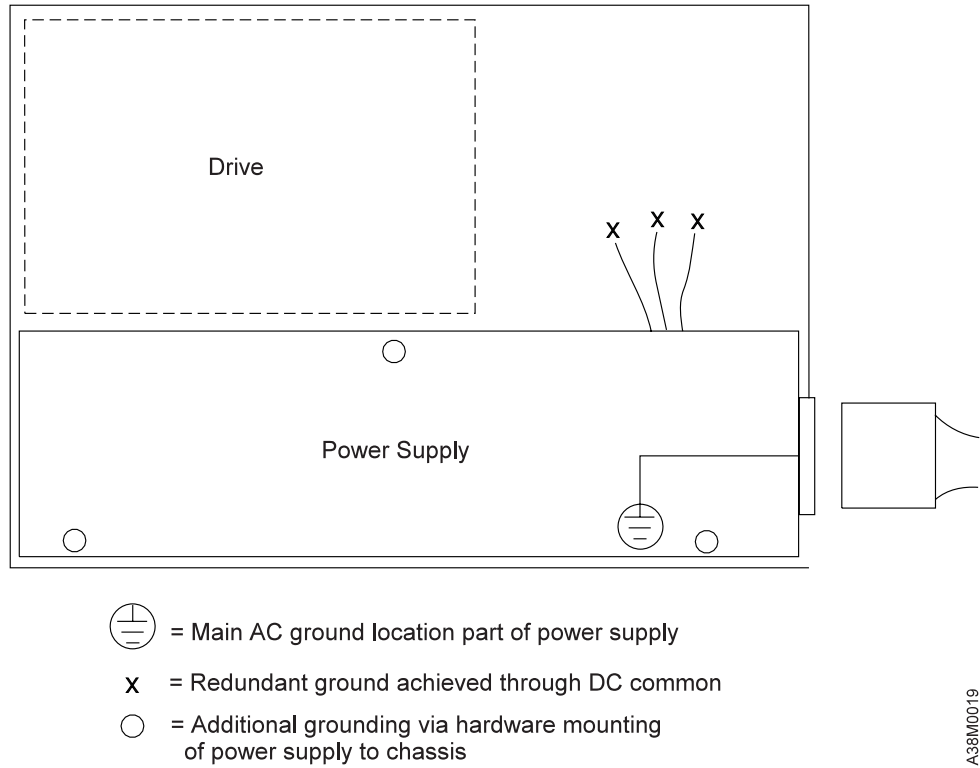

Figure 17. AC Grounding Diagram (50 Hz and 60 Hz)
12. Check the voltage level at the outlet and also check for proper grounding (see Figure 17 on page 29).